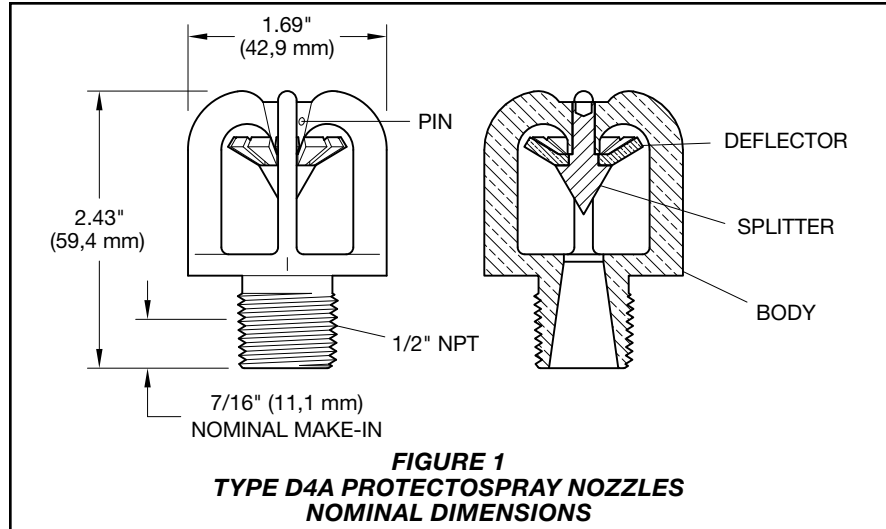

FIGURE 1
Step 2. Tighten the nozzle into the nozzle fitting using an adjustable crescent wrench. With reference to Figure 1, the adjustable crescent wrench is to be applied to the wrenching area.